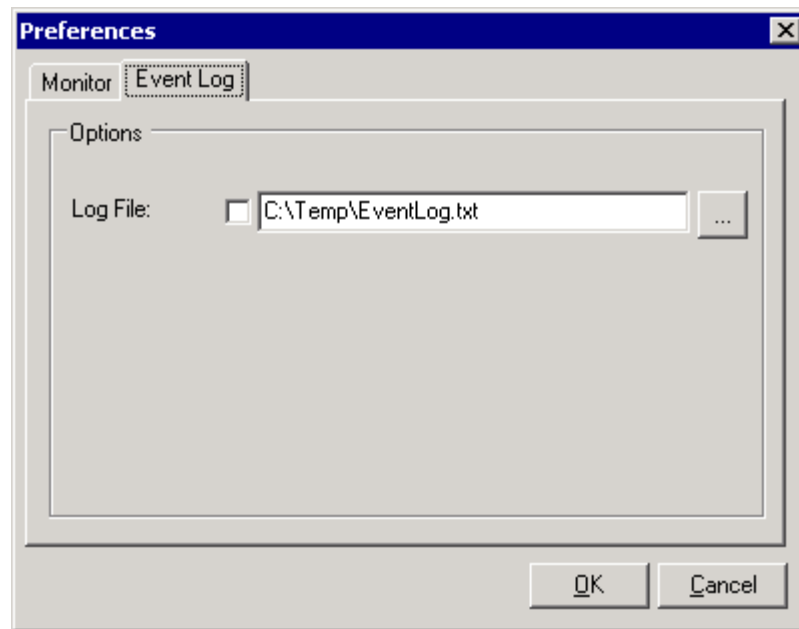

Figure 5-2. Preferences Dialog Box, Event Log Tab
2. From the Preferences dialog box, select Event Log tab (see Figure 5-2).